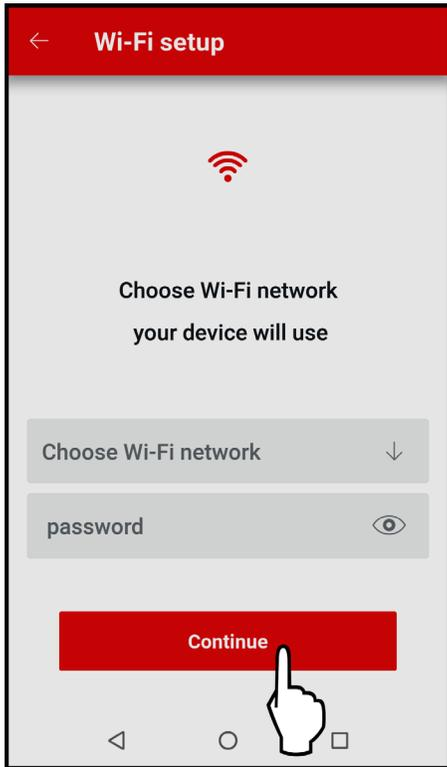

Figure 12. Choose Wi-Fi Network
2. The "Wi-Fi setup" screen will appear. Select or enter the Wi-Fi network you want your unit to be connected to and enter the network password. See **Figure 12**.